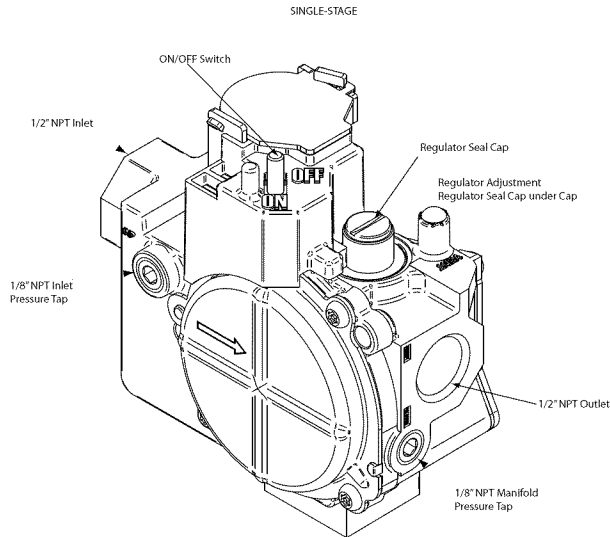

Fig. 51 - Gas Valve
- g. Remove regulator adjustment cap from gas valve pressure regulator (See Fig. 51.) and turn adjusting screw (3/16 or smaller flat-tipped screwdriver) counterclockwise (out) to decrease input rate or clockwise (in) to increase input rate.